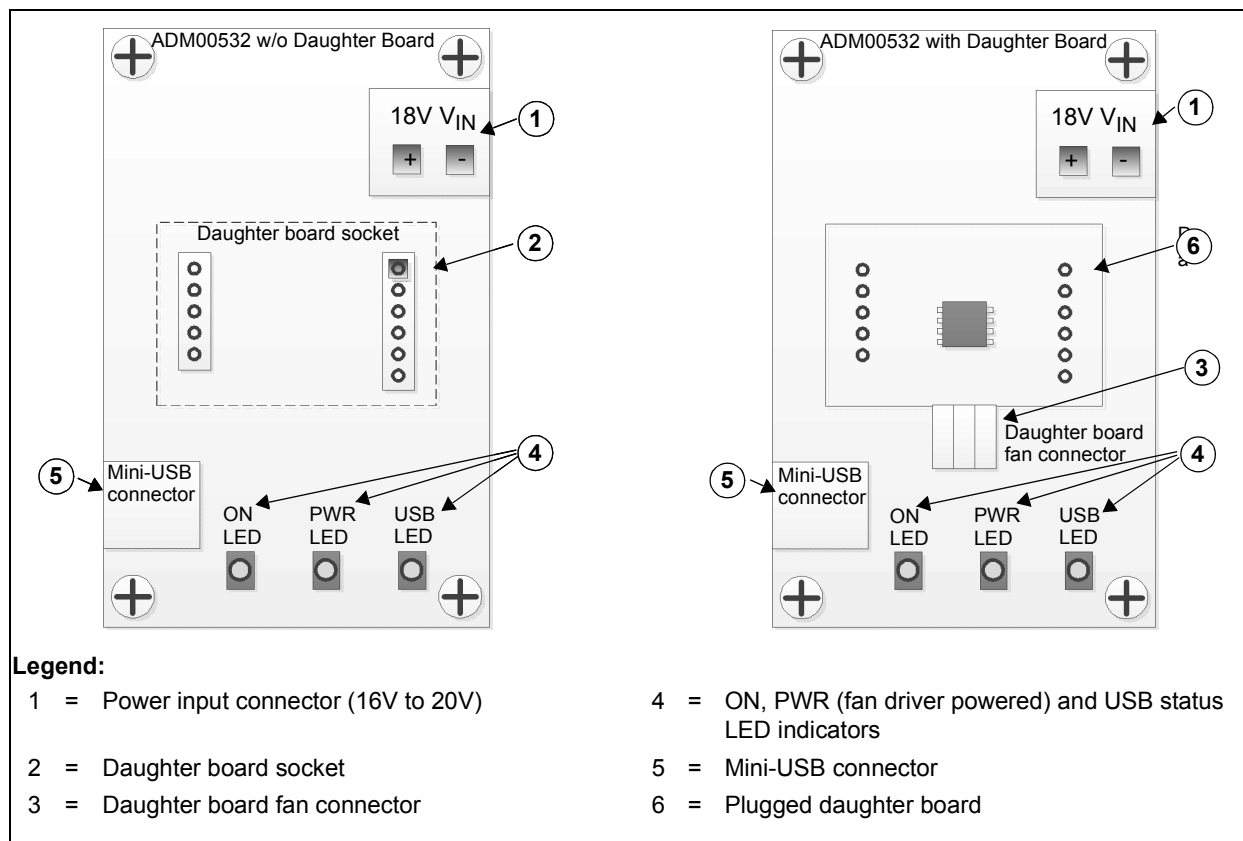

FIGURE 2-6: Top View - Hardware Components.
Figure 2-6 identifies the required points for using the MCP8063 12V 3-Phase BLDC Sensorless Fan Controller Demonstration Board.
1. Plug in the MCP8063 Daughter Board on its socket (see Figure 2-6).